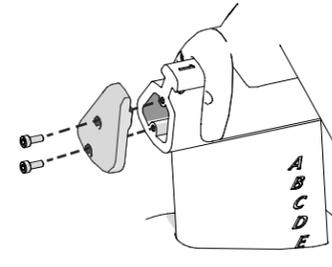

Figure 11
3. Attach the handlebar post end cap using two bolts **9** (Figure 11) and fully tighten with the hex key **7**.